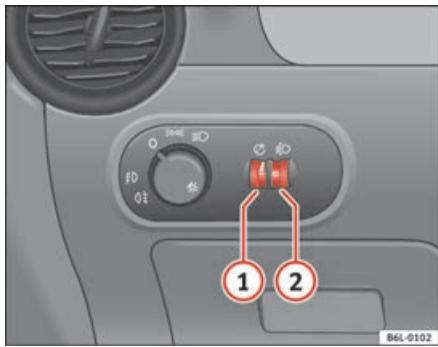

Fig. 58 Instrument panel:
When the headlights are switched on, the brightness of the instruments and switch lighting can be regulated to suit your requirements by turning the thumb wheel ⇒ fig. 58 ①.